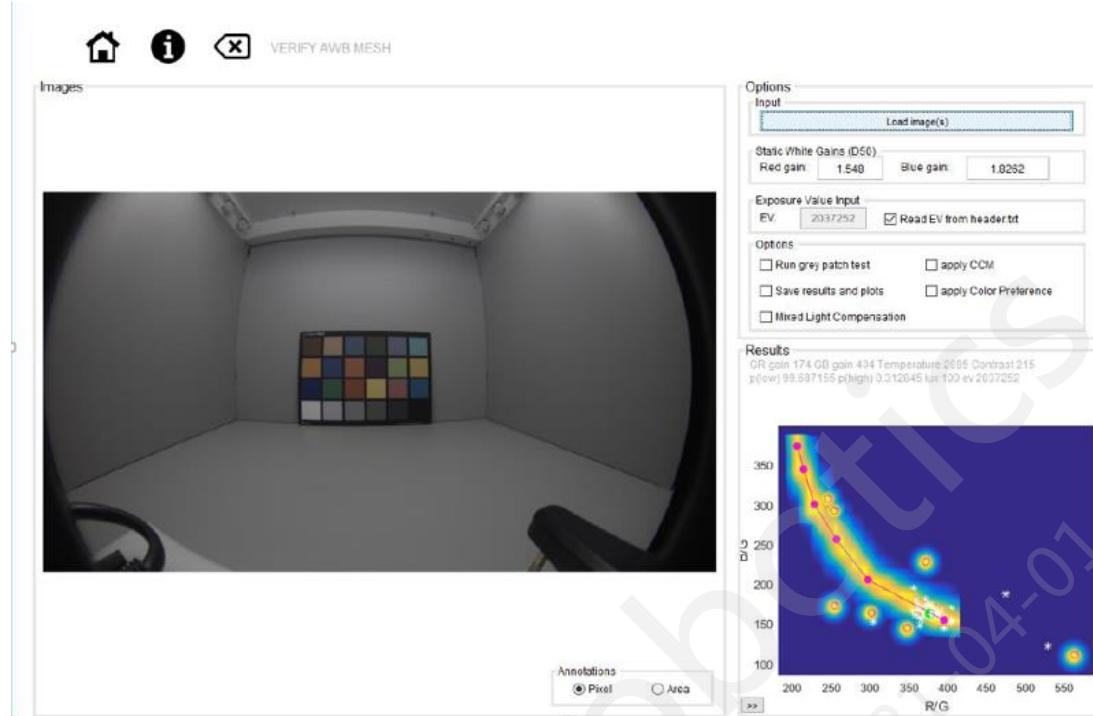

Figure 3.3-19 Verify AWB mesh window after image import.
5. Once the image(s) are imported, the window will look like Figure 3.3-19.